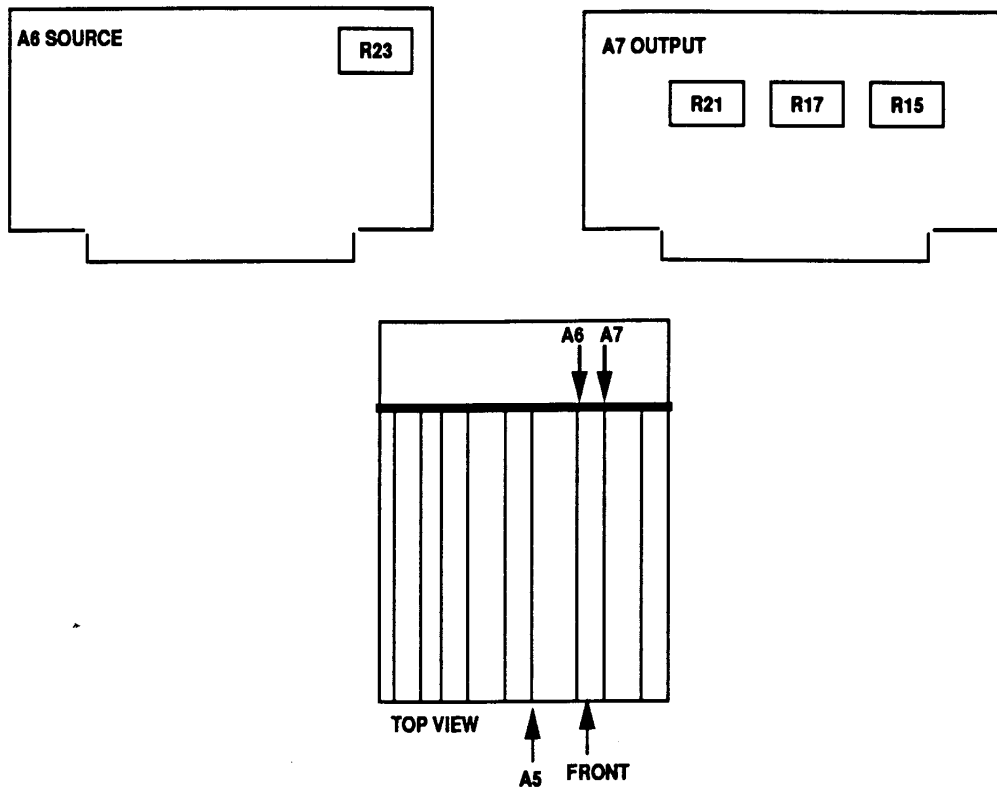

Figure 6. Output level - adjustment locations.
(1) Press keys and enter values using **DATA ENTRY** keys as listed in (a) through (d) below:
(2) Adjust A6R23 (fig. 6) for an ac measurement standard indication of 3.000 V.
(3) Enter **511 mV** using **DATA ENTRY** keys and record ac measurement standard indication.
(4) Enter **512 mV** using **DATA ENTRY** keys and adjust A7R21 (fig. 6) for a ac measurement standard indication of 1 mV greater than that recorded in (3) above (R).
(5) Enter **1.023 V** using **DATA ENTRY** keys and record ac measurement standard indication.
(6) Enter **1.024 V** using **DATA ENTRY** keys and adjust A7R17 (fig. 6) for an ac measurement standard indication of 1 mV greater than that recorded in (5) above (R).
(7) Enter **2.047 V** using **DATA ENTRY** keys and record ac measurement standard indication .
(8) Enter **2.048 V** using **DATA ENTRY** keys and adjust A7R15 (fig. 6) for an ac measurement standard indication of 1 mV greater than that recorded in (7) above (R).
(9) Enter **3.000 V** using **DATA ENTRY** keys and adjust A6R23 (fig. 6) for an ac measurement standard indication of 3.000 V (R).